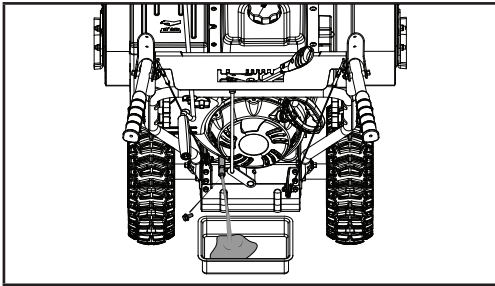

Figure 19
3. Remove the drain bolt and drain the oil into the container by slightly tipping the engine toward the oil cap/dipstick (Fig. 19).